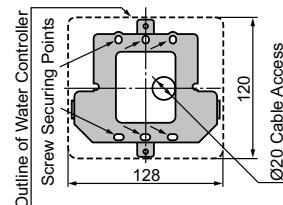

Fig.1
- Use the wall mounting bracket as a template to mark and drill 3 holes, locating the cable access as shown in Fig. 1.